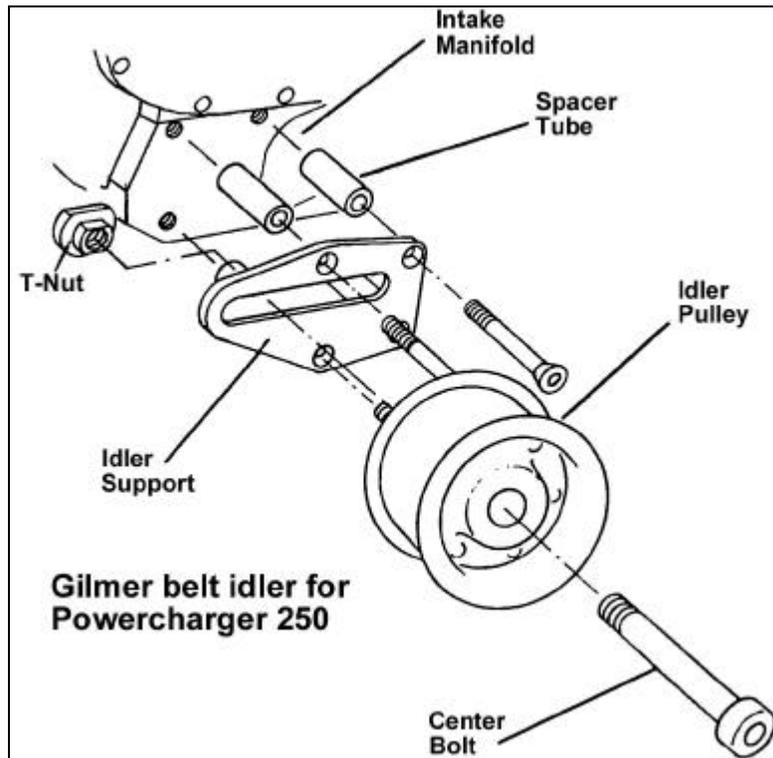

Figure 5
**STEP 6 (250 Gilmer belt).** The idler support assembly bolts to the front of the intake manifold. The support plate is secured with four 3/8-16 flat head Allen screws. The screws go through the idler support plate, through the four aluminum spacer tubes, and screw into the front of the intake manifold. Tighten the screws to 25-35 ft/lbs. (See Figure 5.)